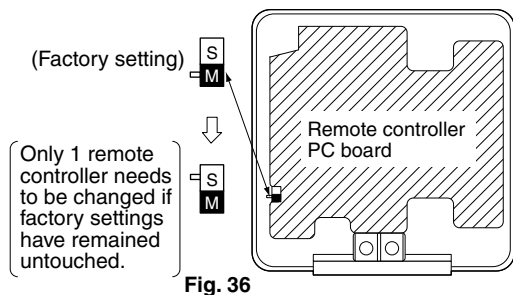

Fig. 36
- Turn the MAIN/SUB changeover switch on one of the two remote controllers PC boards to [S]. (Leave the switch of the other remote controllers set to [M].) (Refer to Fig. 36)